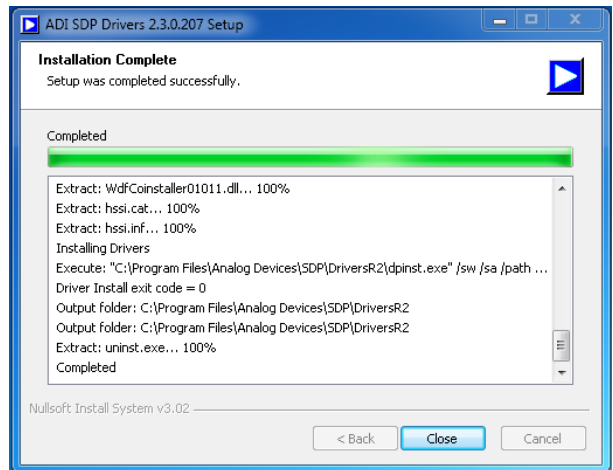

Figure 15. **Installation Complete**
- Click the **Close** button shown in Figure 15 when the installation is complete.